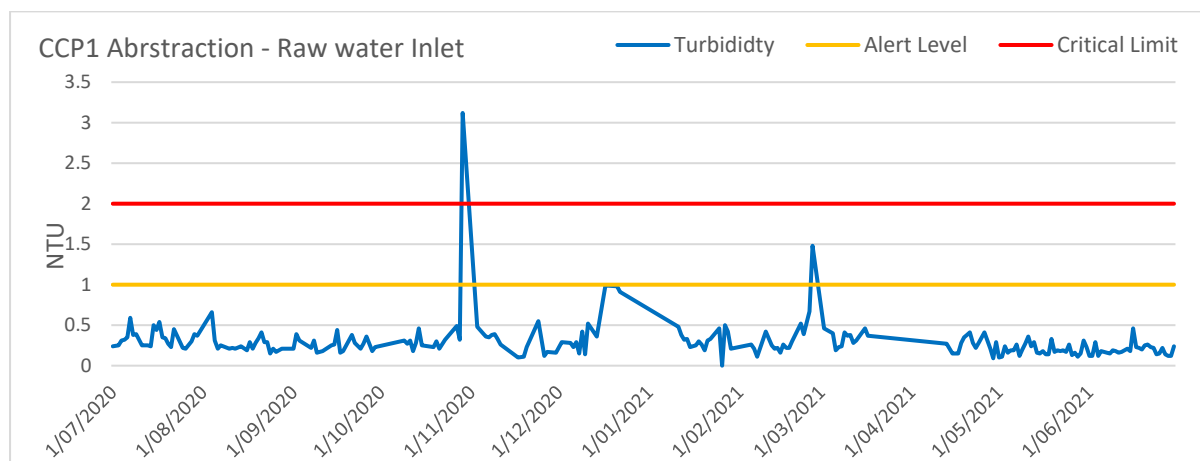

Figure 4.3.6a - CCP 1 Abstraction – Turbidity at Raw water inlet
Monitoring data for each of the Willawarrin supply systems CCPs is shown in Figures 4.3.6a and 4.3.6b. Water carting to this supply from KLM occurred intermittently from 23/12/2020 to 11/01/2021 and 18/03/2021 to 13/04/2021 due in wet weather events that impacted source water.
Three (3) Alert Level CCP exception occurred from five-hundred and fifty (550) samples (Table 4.1 and Figures 4.3.6a and 4.3.6b) were reported across the following CCP locations:
- CCP1 – Abstraction: Turbidity >4 NTU, one (1) occurrence
- CCP3 – Disinfection: Free Chlorine <0.6 mg/L – two (2) occurrences
The three (3) Alert Levels (Figure 4.3.6a and 4.3.6b) include:
- One (1) CCP1 Abstraction Alert Level (1.48 mg/L) on 26/02/2021 caused by rainfall in the catchment increasing river turbidity. Pre-emptive actions included isolation of the bores and
- Two (2) CCP3 disinfection Alert levels for low Free Chlorine: